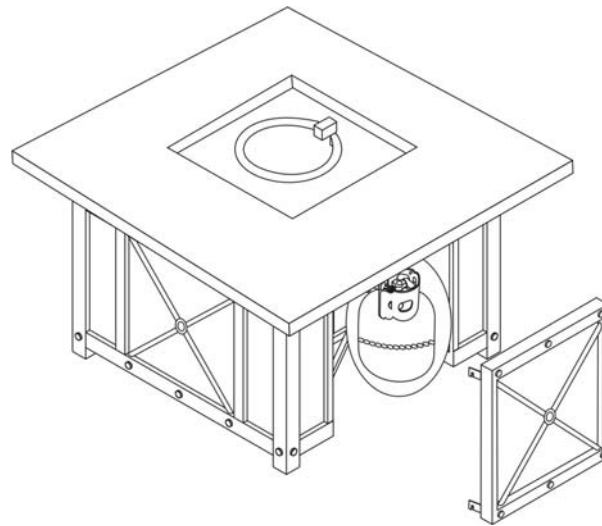

Figure 5
4. Lift off the tank door, place the tank in the holder and use the chain to hold the tank. Connect the regulator as shown in Fig. 5. Screw the black handle clock-wise to tighten. Turn the handle counterclock-wise to remove. The hose must point down. Open the control door and check that the valve is turned all the way clockwise to the “OFF” position. Open the tank valve. Apply a solution of soapy water to the tank-regulator connection and to the valve-hose connection to check for leaks. If soap bubbles continue to form, the connection has a leak. If a leak is found, close the tank valve and tighten all connections. **NEVER USE A FLAME TO CHECK FOR LEAKS.**